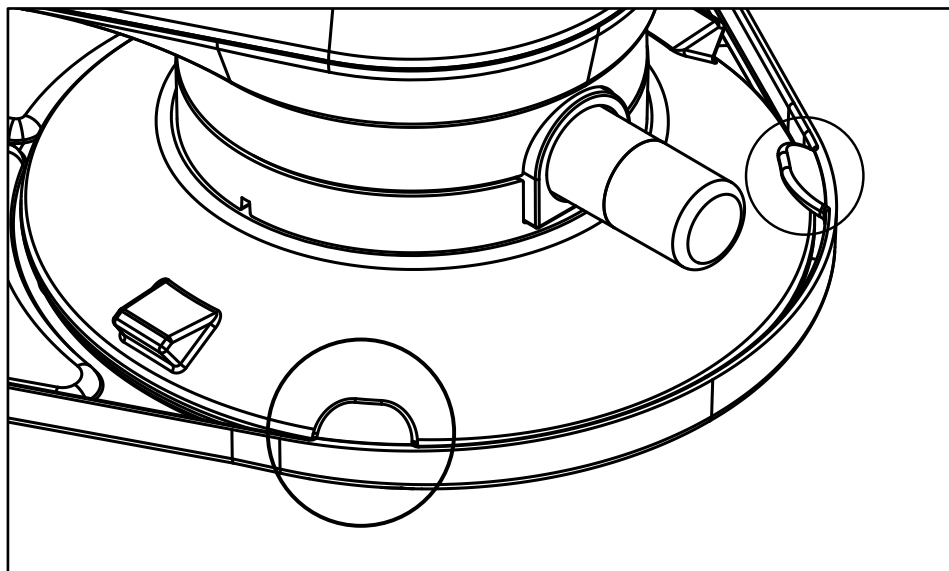

FIGURE 5
STEP 5: Lower the rear cup on the Front Assembly down into place within the red protective suction cup cover. Flex the rear cup beneath the two small overhangs as shown in **Figure 5**.